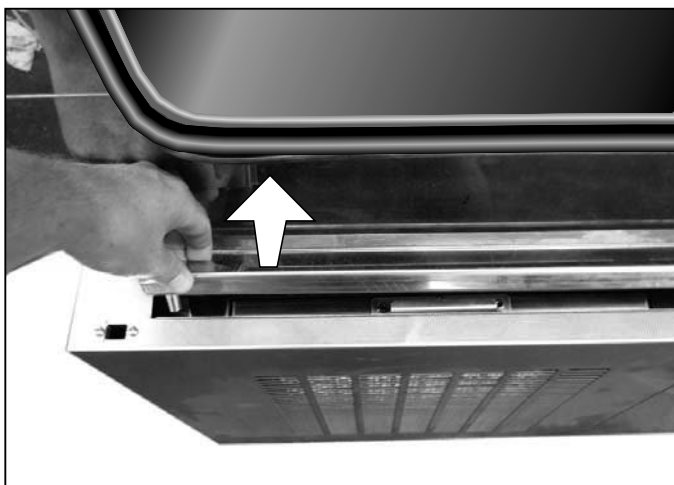

Fig. 40 Removing drip tray
2. Remove and empty the drip tray (Fig. 40).